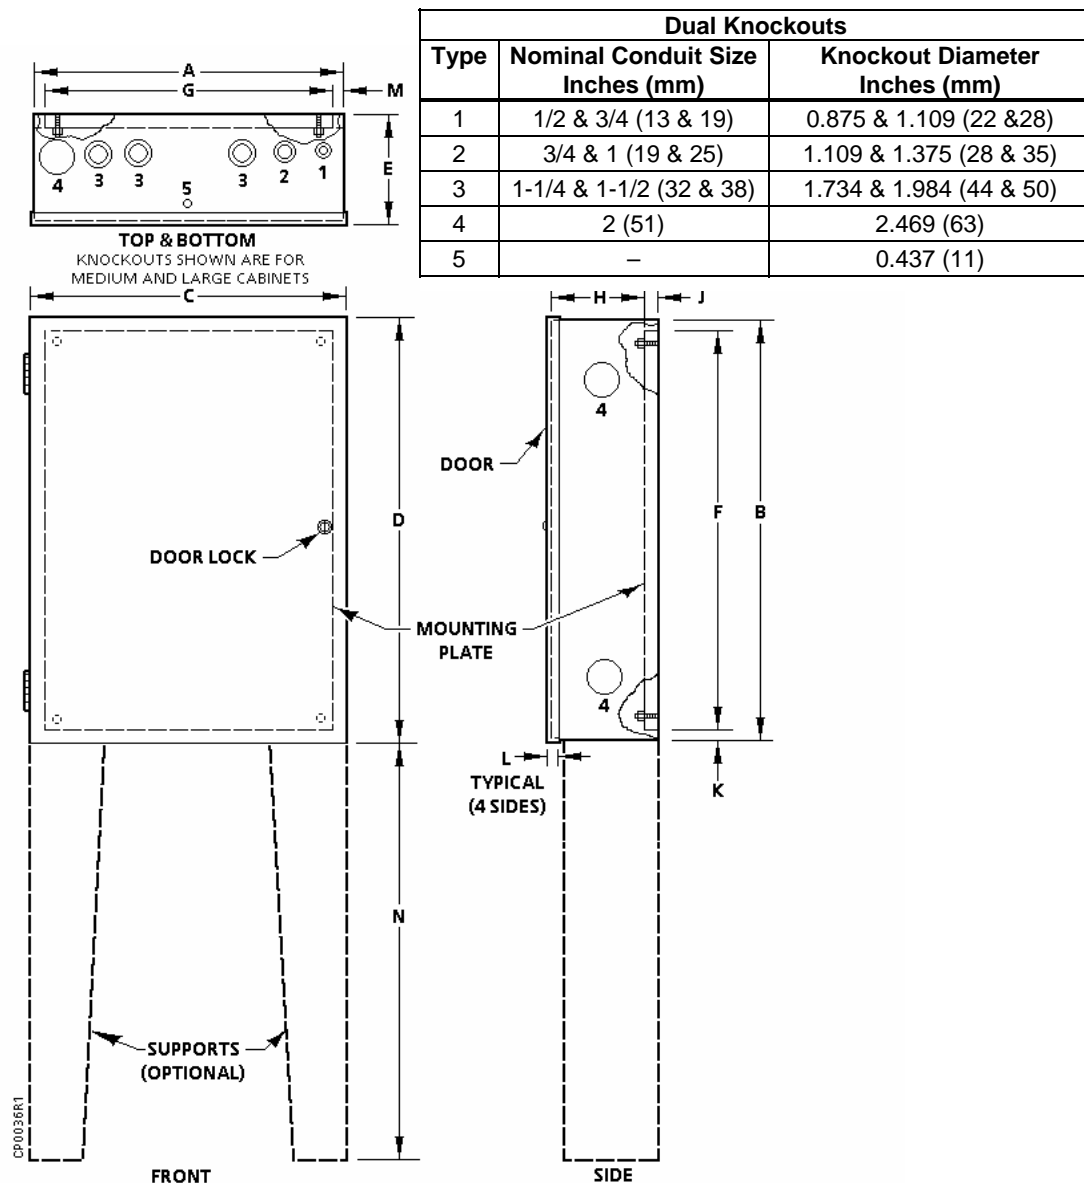

Figure 4. Cabinet and Support Dimensions (See Table 5 and Figure 9).
1. The space required for the controls mounted in the door or the mounting plate is shown in Table 4. Space available between the door and the mounting plate is shown in Figure 4, Table 5, and Table 6.
Table 6. Cabinet Assembly Dimensions (See Figures 4, 5, and 6).